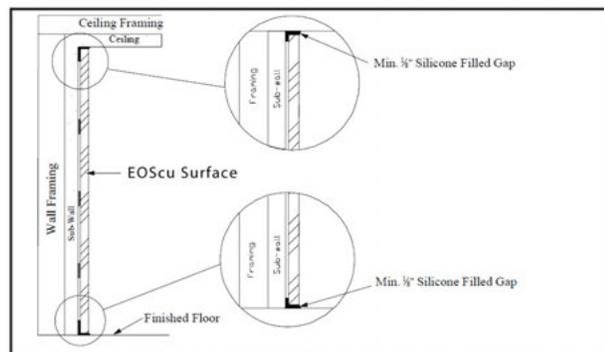

Figure 27B
- Between finished floor pieces. (Figure 27B)